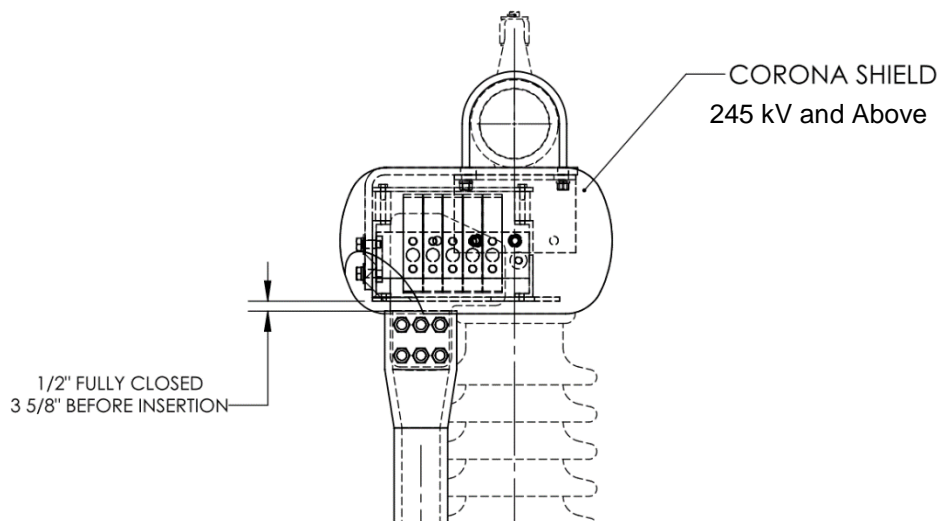

Figure 8: Contact engagement
3.2.3.2.1. Step 1: As the blade tip enters the jaw it is fully centered and firmly against the blade stop. There should be a vertical gap between the aluminum portion of the blade and bottom of the jaw contact support of 3-5/8 inches. See **Figure 8**.
3.2.3.2.2. Step 2: The blade will now lift vertically. It is in the full closed position when the gap between the aluminum portion of the blade and bottom of the jaw contact support is 1/2 inch. See **Figure 8**.